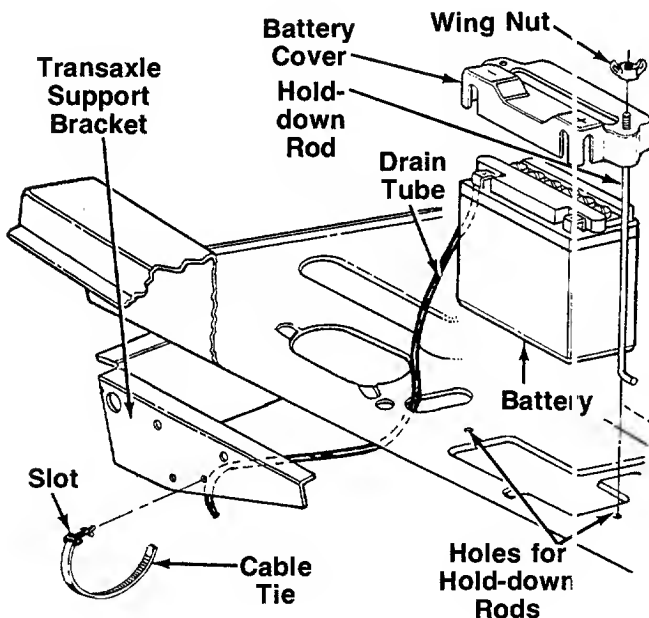

FIGURE 16.
5. Secure the battery in place with battery cover and hold-down rods. Secure with two wing nuts (P). See figure 16.
6. Route the clear plastic drain tube down through the hole in the frame shown in figure 16.
7. Push the locking end of cable tie through the hole in transaxle support bracket. See figure 16. Place the end of cable tie through the slot so a loop is formed around the drain tube to secure it. Tighten cable tie and cut off excess end.